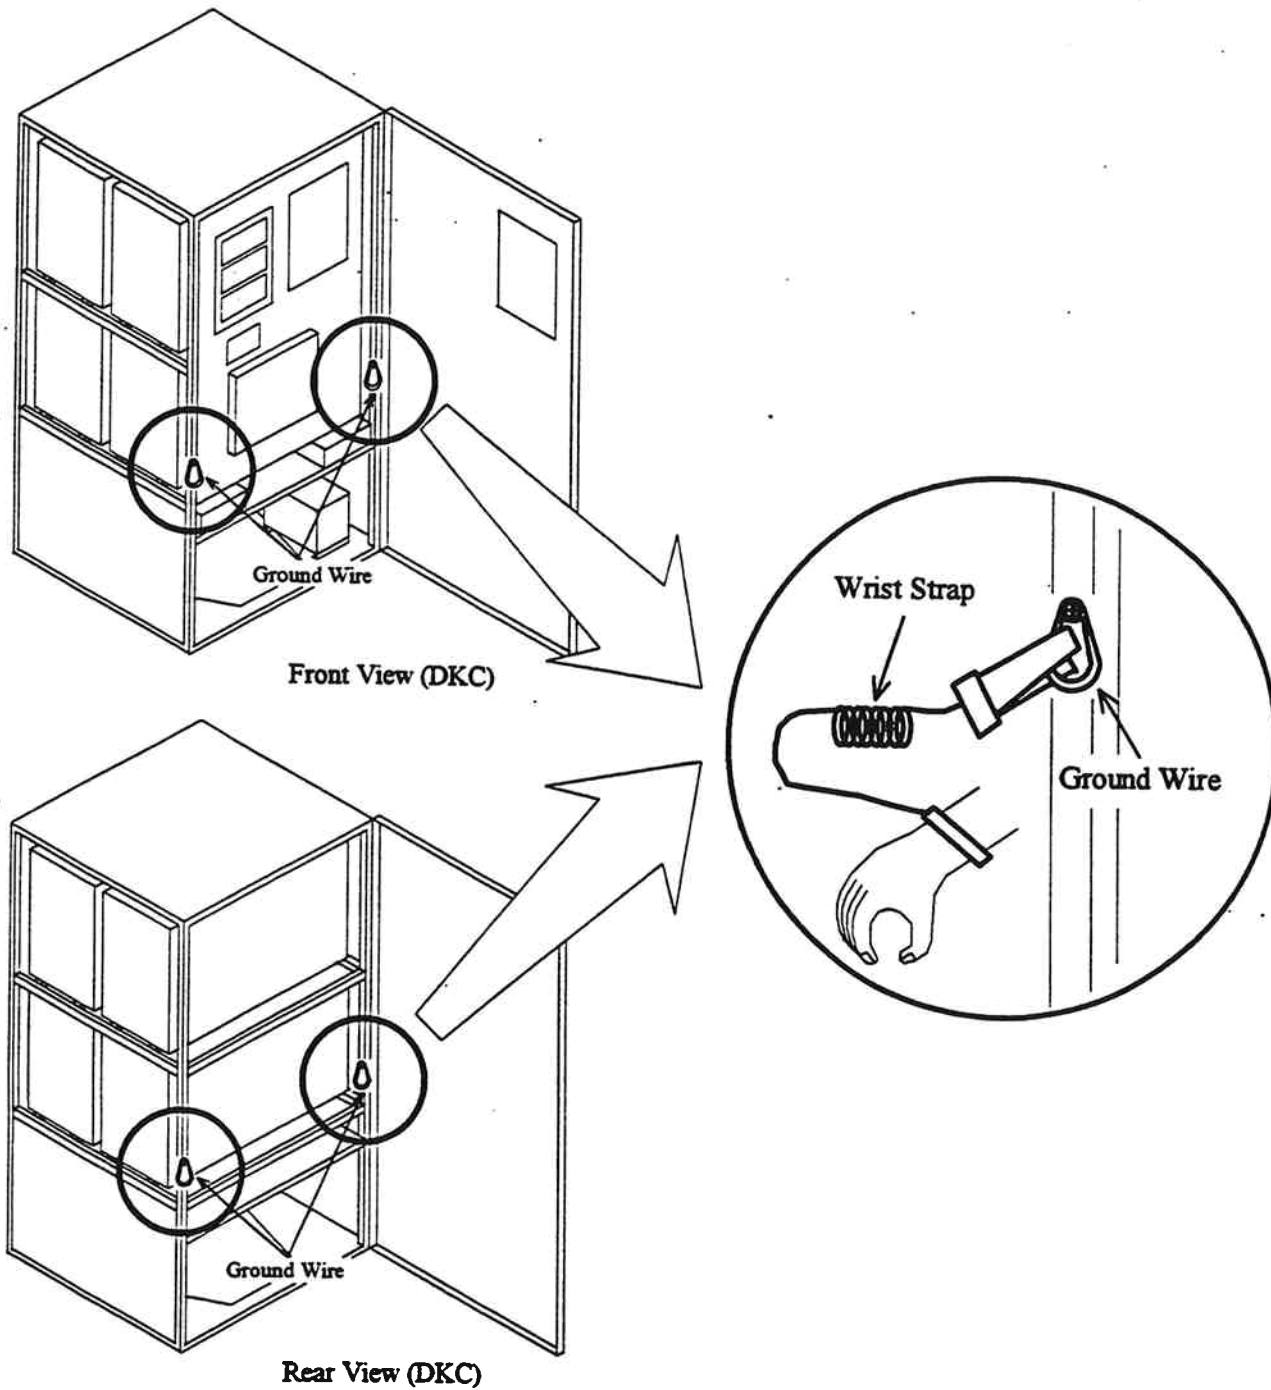

Fig. 3.3.18-1 Location of Ground Wire on the DKC
- (1) To protect the IC and LSI on the PCB from static electricity damage, put on the wrist straps and connect them into the ground wires on the DKC/DKU before starting work (see Fig. 3.3.18-1 and 3.3.18-2).